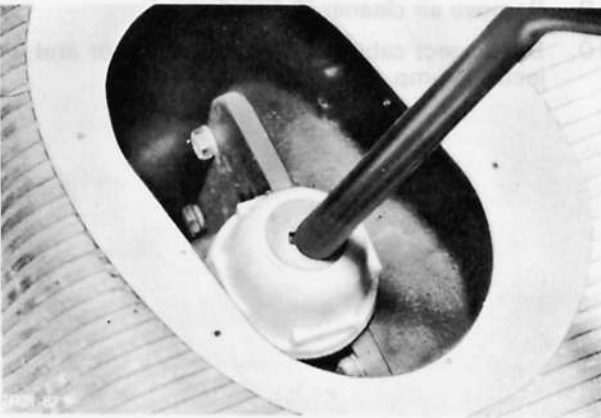

Fig. 21. Remove transmission gearshift lever nut
16. Remove transmission gearshift lever mounting bracket (6 bolts) and raise gaiter. Remove gear shift lever cap nut, Fig. 21 and withdraw gearshift lever.